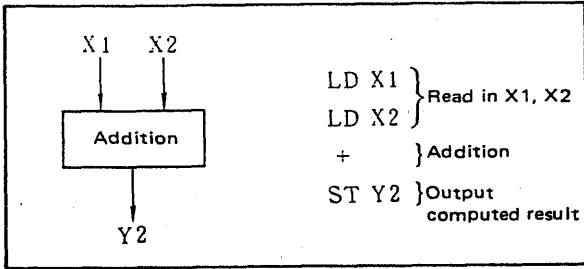
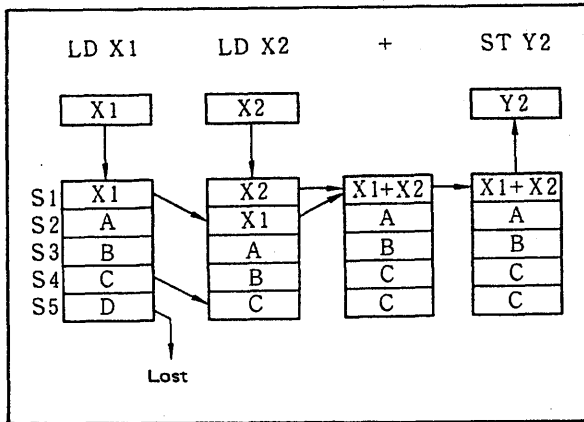

Figure 4-2-1. Two-input Arithmetic Unit and Program.
Figure 4-2-2. Program and Effect on Arithmetic Registers.
The SLMC performs three basic operations — reading the input signal, computation, and outputting the computed result. The example in Figure 4-2-1 shows how the addition of two input signals is programmed, and Figure 4-2-2 shows how the stack registers change during the program. Computations are performed in the common stack registers S. Connection of signals to the registers — that is, inputting to the S registers — is performed by means of the LOAD (LD) instruction. The S registers S_1 thru S_5 comprise a "stack", and data in S is pushed down (S_1 to S_2 , etc.) each time data is input by the LD instruction.